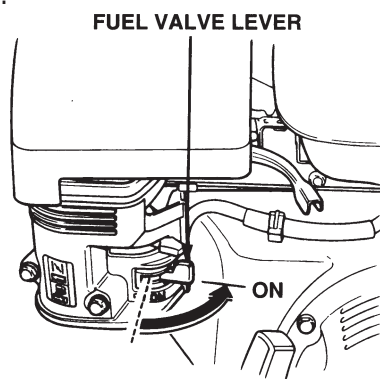

Figure 7. Fuel Shut-Off Lever
1. Move the fuel shut-off lever (Figure 7) to the ON position.